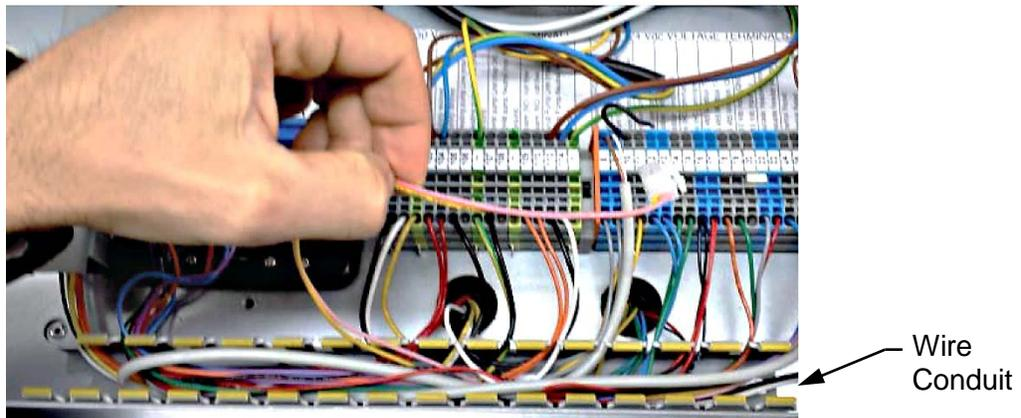

Figure 1-10: Removing Pink and Yellow Wires from Wire Conduit
4. From the wire conduit, remove the two wires (pink and yellow) that are attached to the plug disconnected from the communications board in step 4 (Figure 1-10).